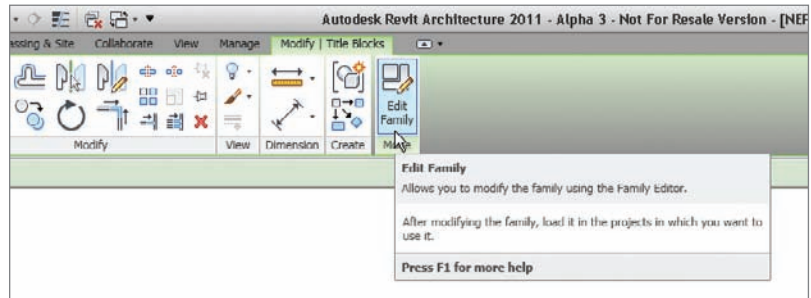

FIGURE 23.24 Editing the title block family
3. Select the title block, and click the Edit Family button in the Modify | Title Blocks tab, as shown in Figure 23.24.